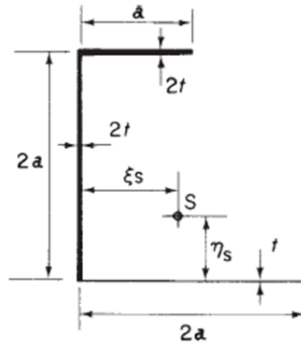

Figure 3
- (b) Show that the position of the shear centre S with respect to the intersection of the web and lower flange of the thin-walled section shown in Figure 3, is given by $\xi_S = -45a/97$, $\eta_S = 46a/97$. [BL: Apply| CO: 3|Marks: 7]